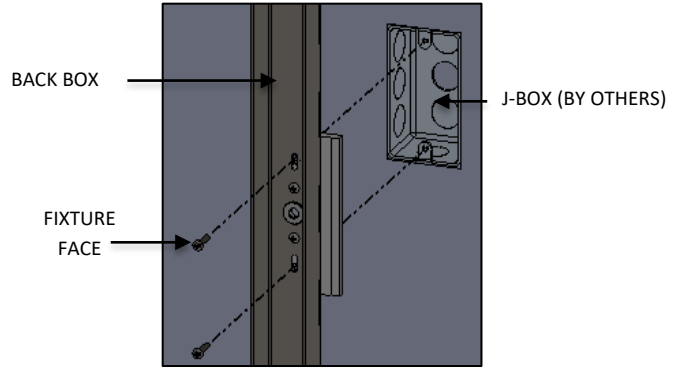

FIG. 7- TEMPORARY INSTALLATION OF BACK BOX
- Temporarily attach BACK BOX to the JUNCTION BOX (by others) with Screws as shown in FIG.7 to translate ANCHOR HOLES location to wall.